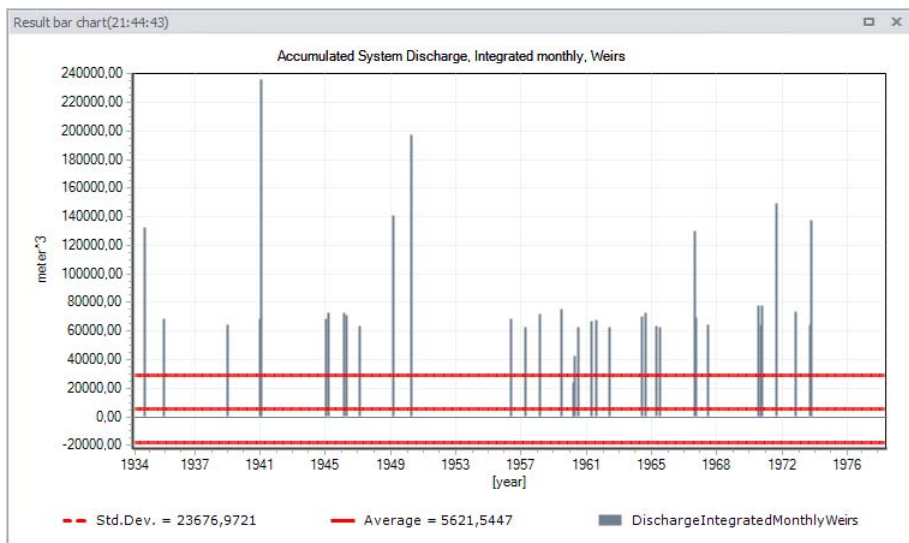

Figure 20.66 Example bar chart plot of monthly weir overflow volumes from LTS chronological statistics results
- Click on the ‘OK’ button to create a new bar chart plot. An example is shown in Figure 20.66.